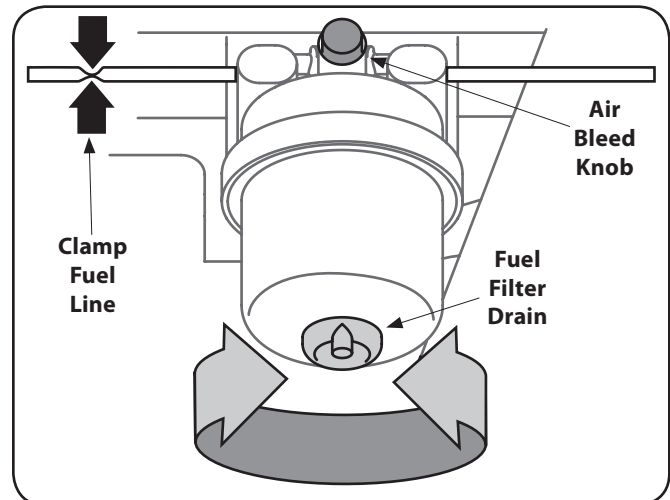

Figure 5-4
3. Turn the filter drain counterclockwise to open. Allow the water at the bottom of the filter to drain until only pure diesel fuel drains from the valve. See Figure 5-4.
5. Slowly turn the air bleed knob counterclockwise until fuel begins to seeps out around the bleed knob. Turn air bleed knob clockwise to close. Refer to Figure 5-4.
2. Clamp the fuel line just to the rear of the fuel filter. See Figure 5-4.